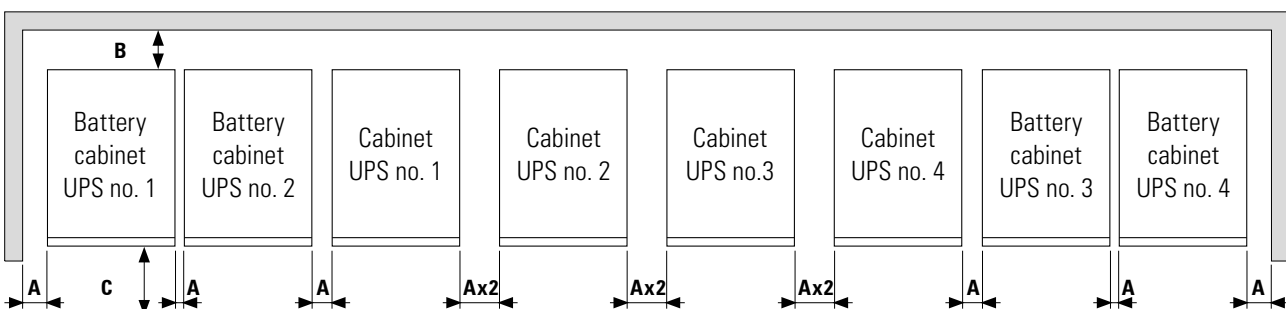

Fig. 30. Minimum dimensions for ventilating a UPS tower version system in parallel.
- *Fig. 30* shows an example of 4 parallel units with their respective battery cabinets. For systems with fewer units, act accordingly on a case-by-case basis.